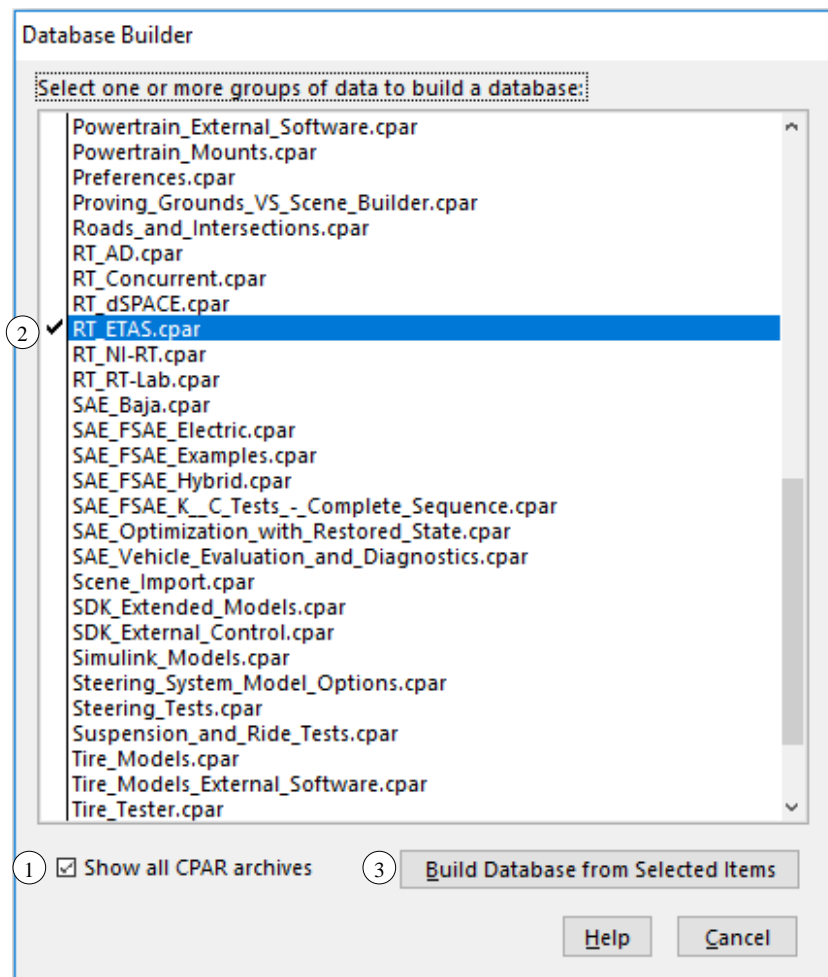

Figure 4. Database Builder
To build a new database, launch CarSim and select **Open Database Builder...** from the Select Recent Database window. In the Database Builder window (Figure 4), toggle on **Show all CPAR archives** ①. Select `RT_ETAS.cpar` ② along with any other data groups that you would like to include in the new database. Click **Build Database from Selected Items** ③. Select the folder where you would like to save the database and click **OK**.